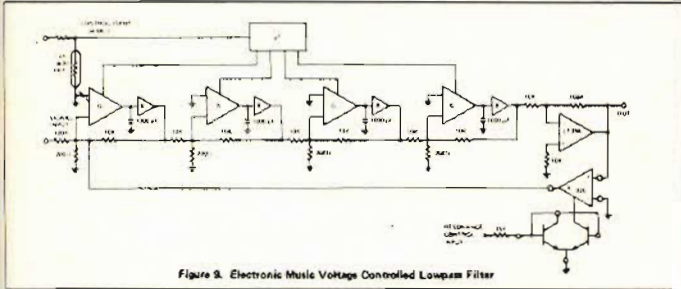

Figure 9. Electronic Music Voltage Controlled Lowpass Filter
- Control input sensitivity tempco is cancelled best by a +3300 ppm resistor (Tel. Labs Q81 or equiv.) as shown in Figure 9.
Figure 9 is a voltage controlled lowpass filter with voltage controlled resonance for electronic music applications. The frequency control input sensitivity is 1 volt/octave, temperature compensated. At high resonance settings the filter will oscillate with a pure sine wave. The signal level is 10V p/p max.